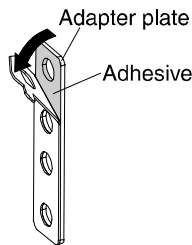

Figure 5. Removing the Adapter Plate Adhesive
3. Peel off the covering that protects the adhesive side of one adapter plate, as shown in Figure 5.